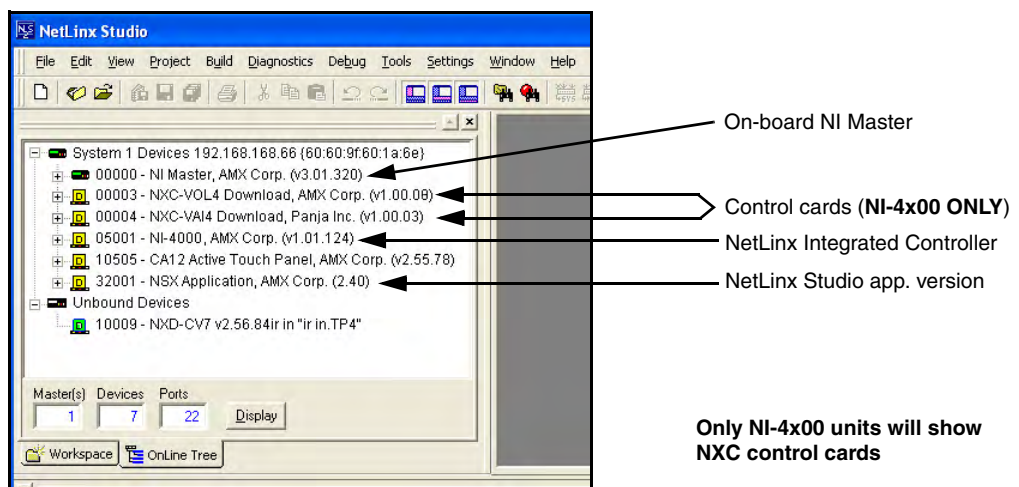

FIG. 43 Sample NetLinx Workspace window (showing OnLine Tree tab)
2. After Studio has established a connection to the target Master, click the **OnLine Tree** tab of the Workspace window to view the devices on the System. *The default System value is one (1).*
4. After the Communication Verification dialog window verifies active communication between the PC and the NI unit, verify the NetLinx NXC Control Cards appear in the **OnLine Tree** tab of the Workspace window (FIG. 43).